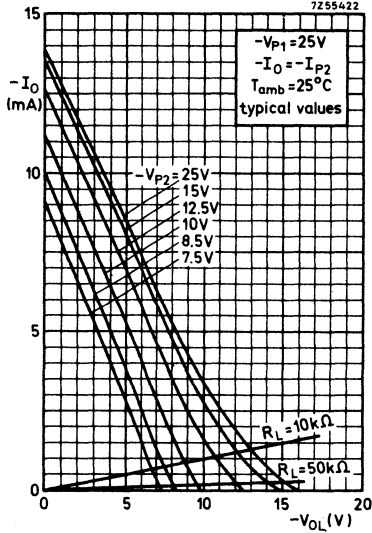

Fig. 4. Output characteristic
Currents are plotted in Figs. 4 and 5 on page 6.
1) See also Figs. 4 and 5 on page 6.